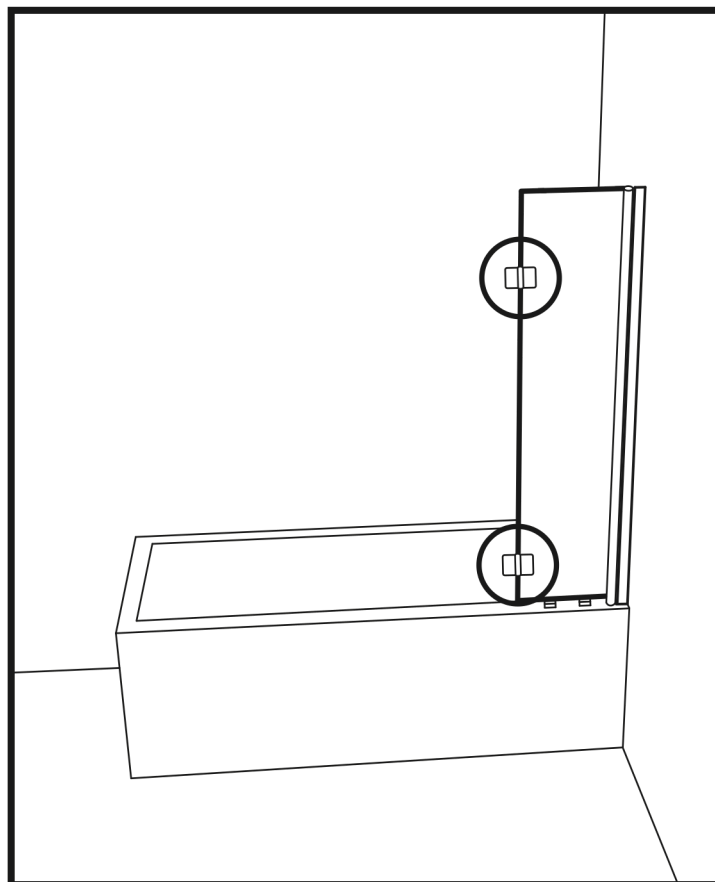

Figure 9
17. Install the hinges to the glass using the screws provided in the kit. (Fig 9)